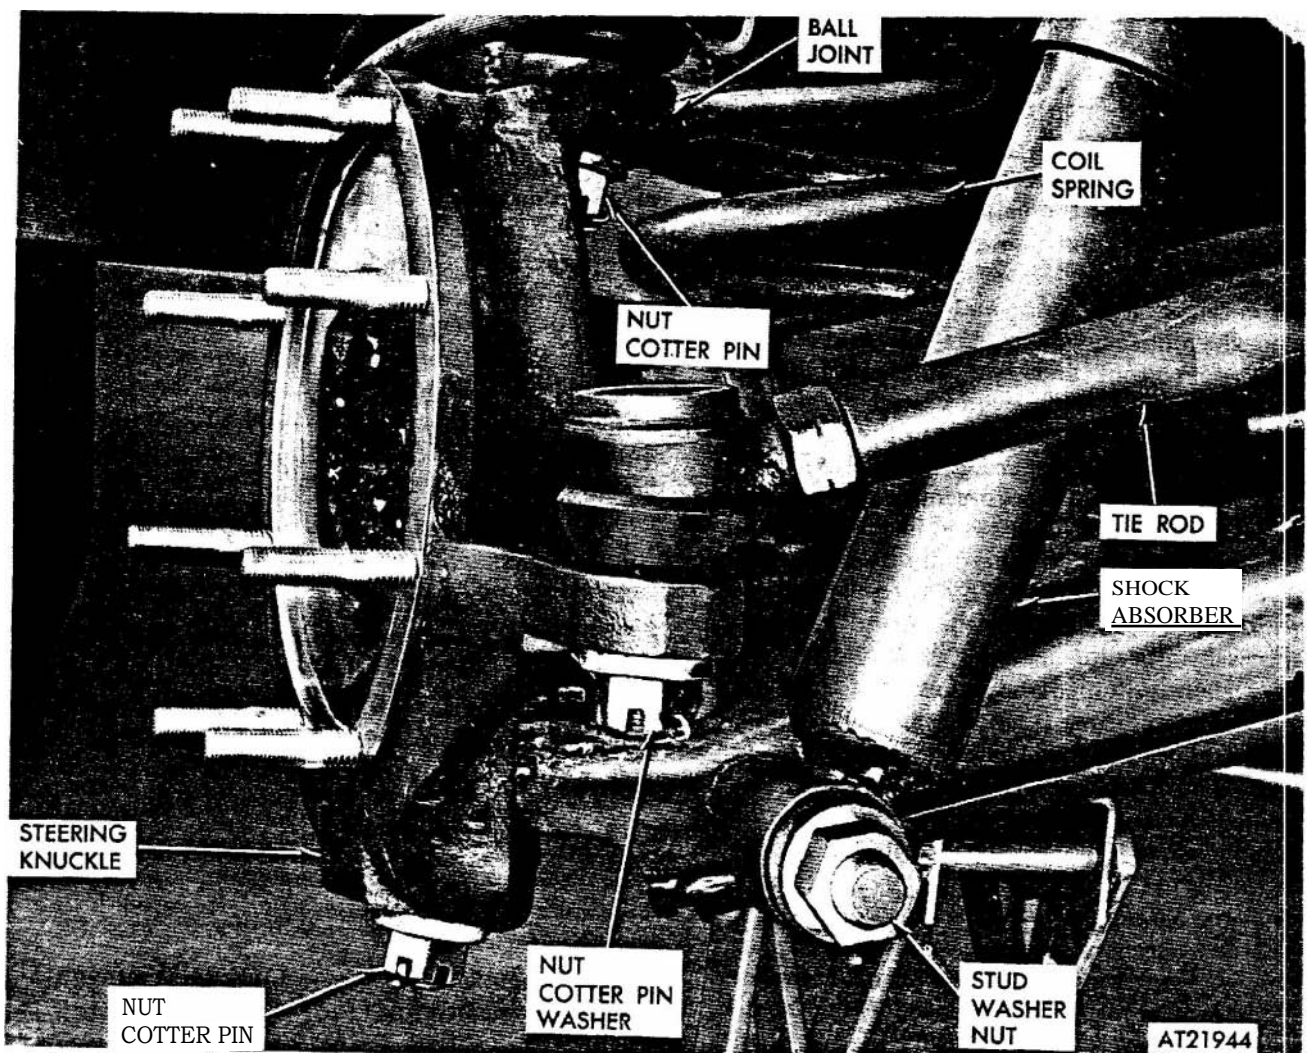

Figure 2-291. Steering knuckle removal
- (1) Jack and block vehicle.
- (2) Remove wheel and tire assembly (refer to para 2-156).
- (3) Disconnect hydraulic and air hoses from brake assembly spindle. Install protective caps on open lines and ports. Tape hoses aside.
- (4) Support brake assembly and remove eight nuts securing brake assembly spindle to steering knuckle and four screws and lock plates securing drive axle shaft to stub axle. Remove brake assembly.
- (5) Remove cotter pin and nut and remove tie rod end from steering knuckle (fig 2-291).
- (6) Disconnect shock absorber by removing nuts, washers, and stud securing lower end of shock to lower suspension ann.
- (7) Remove coil spring by prying spring out of its seat on the lower suspension arm.